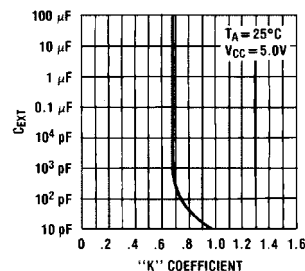

FIGURE 5.
- The "K" coefficient is not a constant, but varies as a function of the timing capacitor C_X. Figure 5 details this characteristic.
- Under any operating condition C_X and R_X must be kept as close to the one-shot device pins as possible to minimize stray capacitance, to reduce noise pick-up, and to reduce |X R and L di/dt voltage developed along their connecting paths. If the lead length from C_X to pins (10) and (11) is greater than 3 cm, for example, the output pulse width might be quite different from values predicted from the appropriate equations. A non-inductive and low capacitive path is necessary to ensure complete discharge of C_X in each cycle of its operation so that the output pulse width will be accurate.